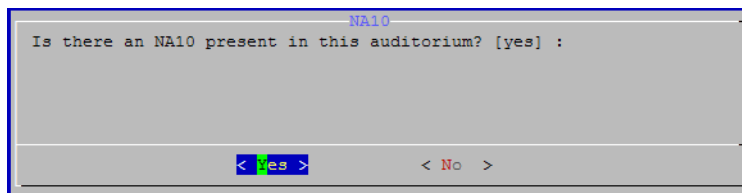

Figure 3-26 NA10 Screen
8. Select the desired cinema processor option, then press <Enter>. The **NA10** screen appears, as shown in Figure 3-26.